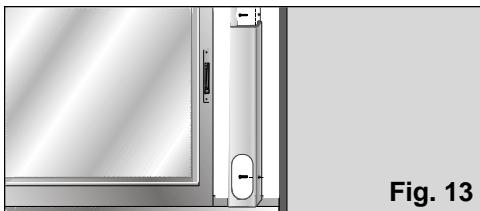

Fig. 13
- The accessory has two holes on the side to fit it to the window / balcony with. The user can secure it to the frame or wall with two screws (not included with the accessory) to prevent it from moving or falling out of place, Fig. 13.